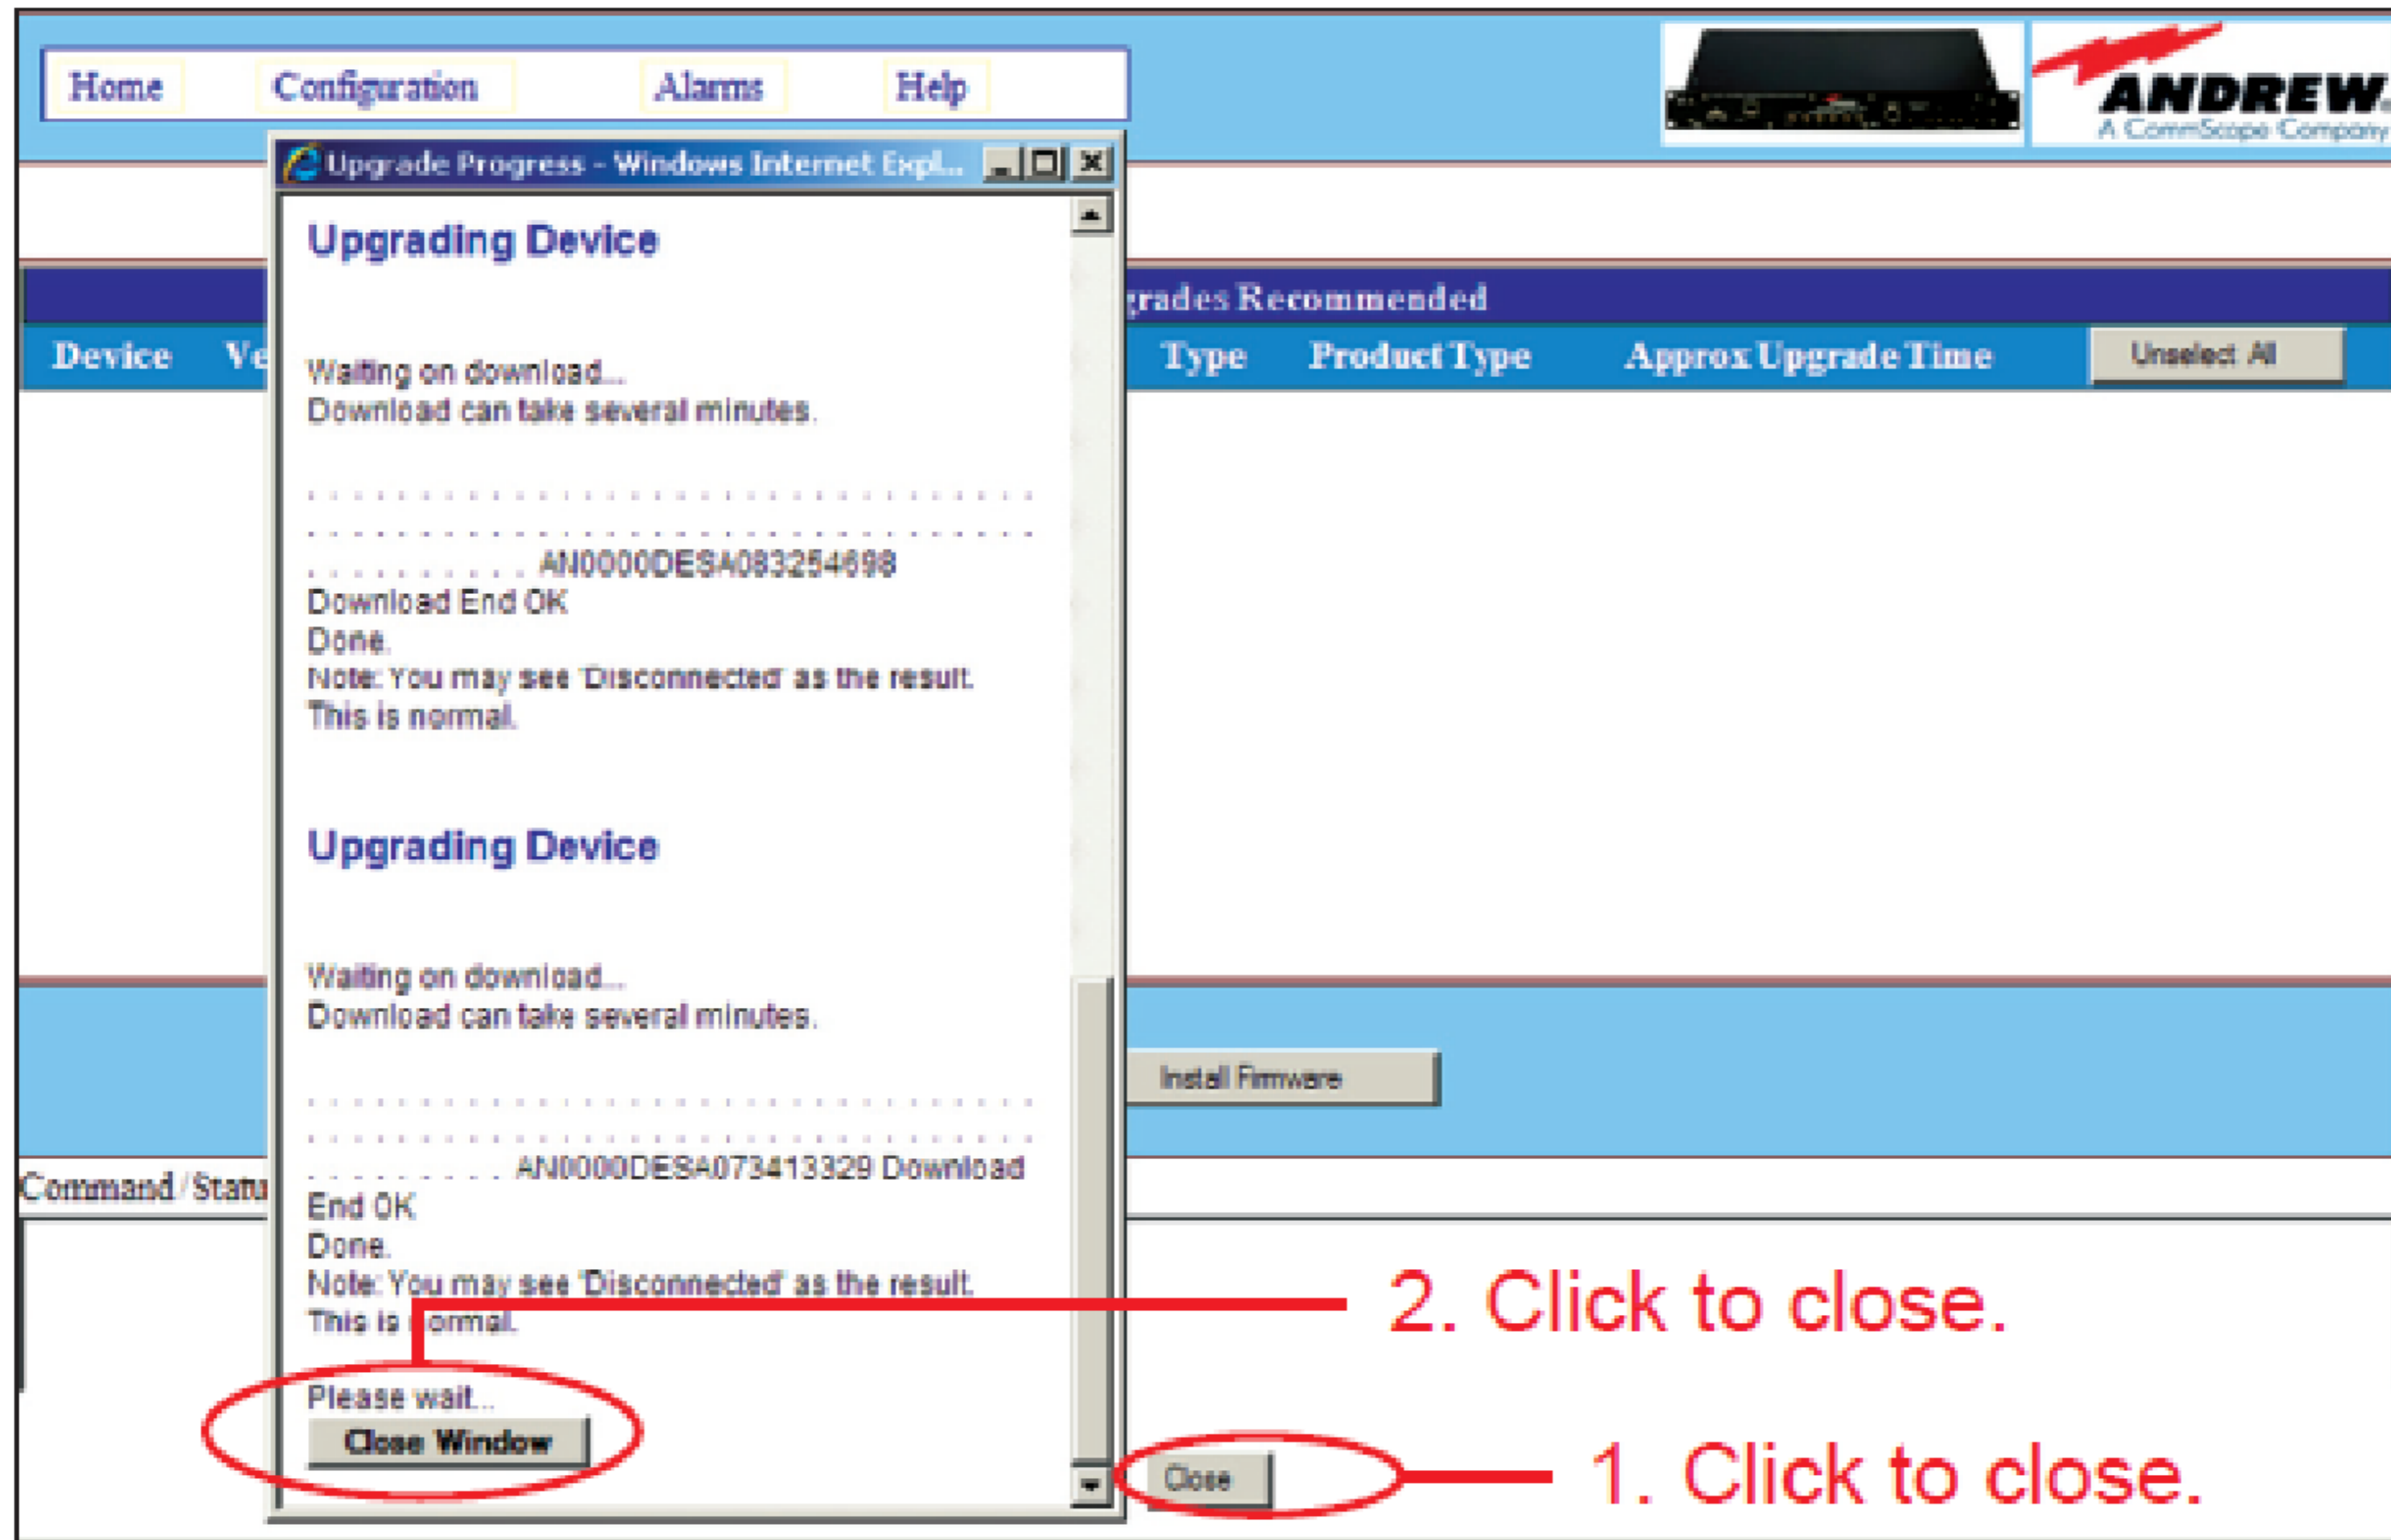

Figure 6. Upgrades Have Been installed.
4. As each device is updated, the de-vice disappears from the screen. The Device Progress window in-dicates that the upgrade is finished (Figure 6).